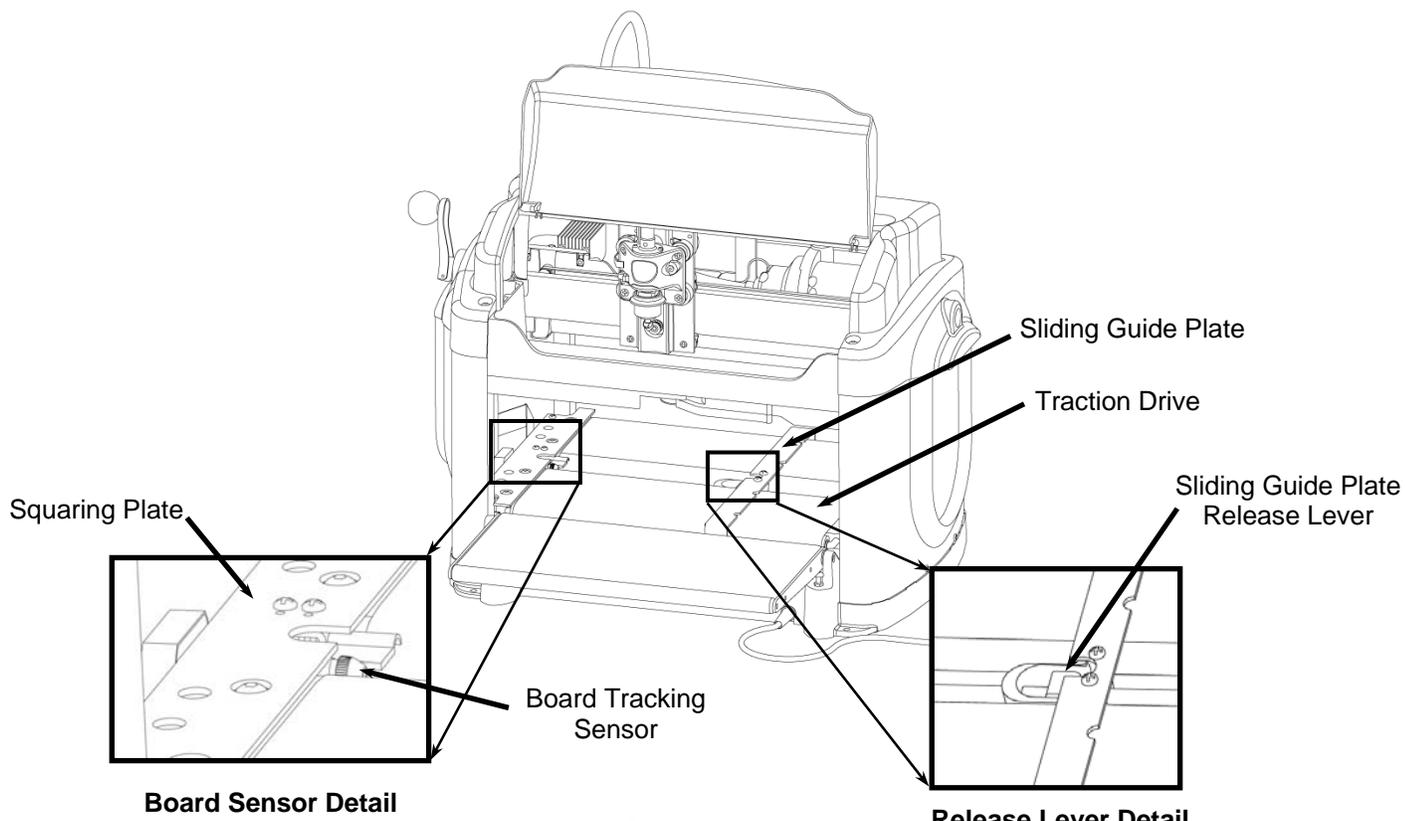

FIGURE 18: WORKPIECE INSERTION DETAILS
2. Check the bottom of the workpiece for features that will make it unusable in the machine. The bottom surface of the workpiece where it contacts the squaring plate must be flat and level for a width of at least 3/8 inches along the bottom edge to allow the Board Tracking Sensor to accurately calculate the position of the workpiece at all times (see Figure 18). If a workpiece does not have the required surface available for the sensor to follow (e.g., if it is already carved on the back), it will be necessary to fasten the workpiece to a sled or carrier jig to do further work on it. If a workpiece is slightly cupped or bowed, the workpiece should be inserted with the cup or bow facing down.